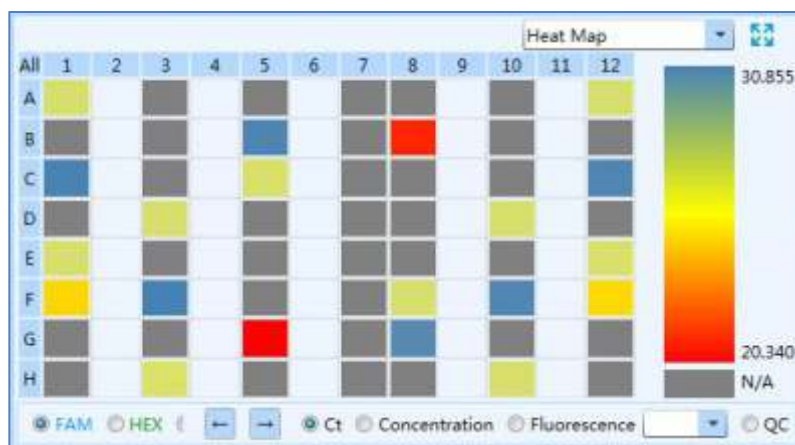

Figure D-9.7 Abs Quant analysis interface – Heat Map functional module
**VII. Heat Map:** display the **Ct**, **Concentration**, **Fluorescence** heat map and QC diagram of the current experiment, as shown in figure D-9.7.